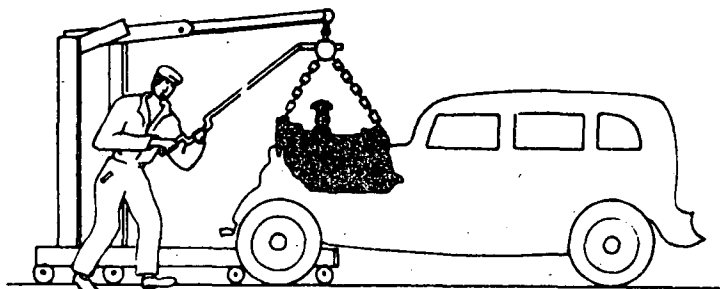

Fig. 1
- b) Lift the engine and position it (fig. 1).